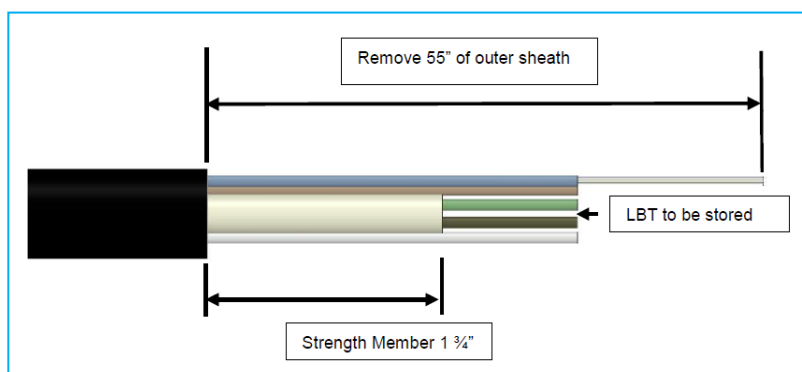

Figure 11
5.2.3.1 Remove **55"** of outer sheath from end of cable. See Figure 11.
5.2.3.2 Cut strength member(s)  $1\frac{3}{4}$ " from end of sheath openings. See Figure 11.